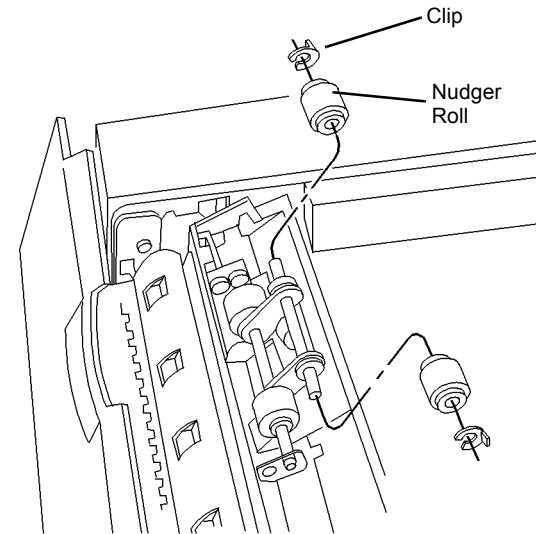

Figure 2 Remove Nudger Rolls
3. Remove Nudger Rolls (Figure 2).
- a. Remove Clips (2).
- b. Remove Nudger Rolls (2).